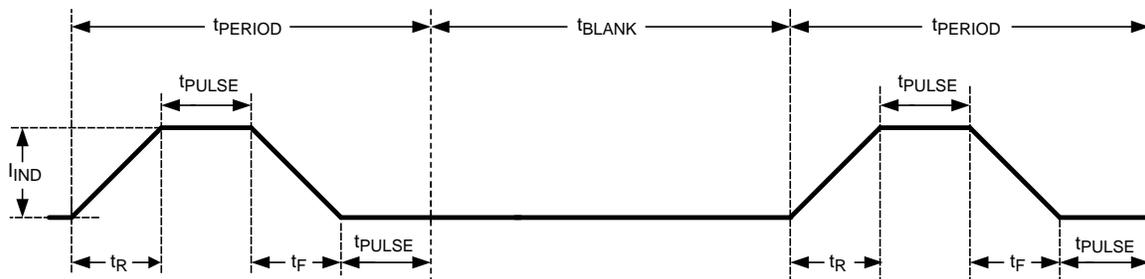

Figure 42. Message Indicator Timing Diagram
- Ramp times for turnon and turnoff of the indicator current source (see Figure 42 for the message indicator timing diagram).
- (see Figure 42)